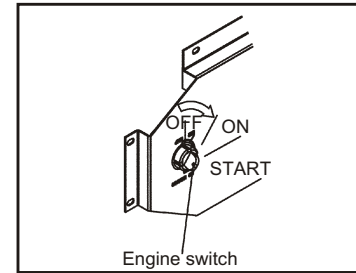

Fig.9 On Position
4.3 Insert the engine key, and turn the engine switch to on position, see Fig.9.